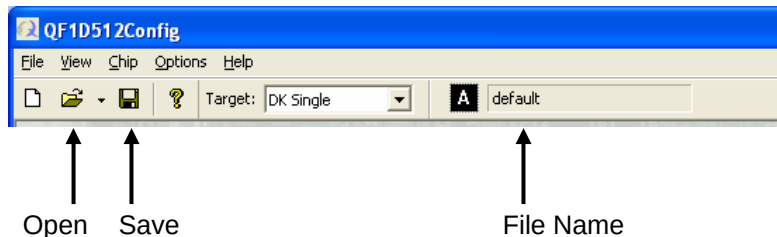

Figure 17
- Click on the **Save** (disk) icon at the top of the screen (Figure 17)
After saving the file name you used ("default" in this example) appears next to chip A at the top of the screen (Figure 17).